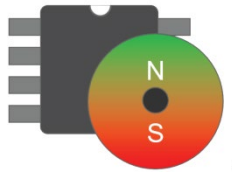

Figure 21. Sensor Alignment Error
- ▶ Sensor alignment error. This is caused by a misalignment between the center of the magnetic field and the center of the angle sensor. See Figure 21.